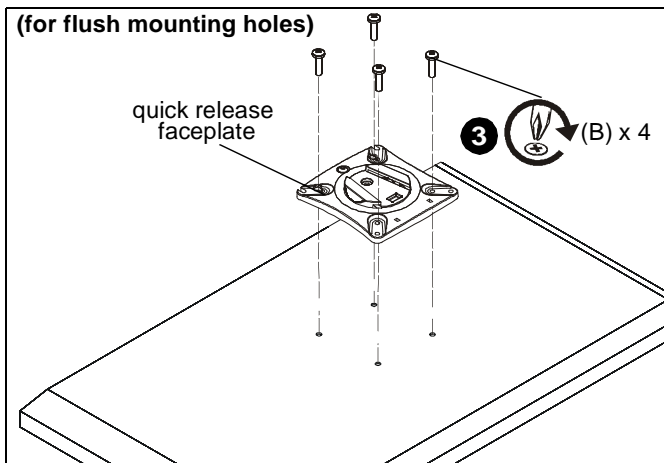

Figure 5
- Using Phillips screwdriver, carefully install four M4x14mm screws (B) through corresponding holes on faceplate and into the mounting holes on the display. (See Figure 5)